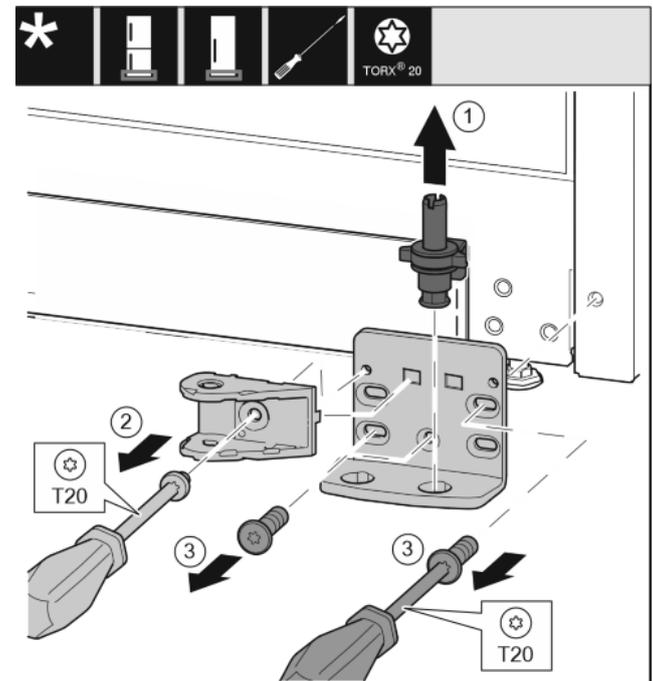

Fig. 27
- ▶ Lift the bearing pin completely upward and pull it out. Fig. 27 (1)
- ▶ Take out the screw with a T20 screwdriver and take off the soft stop connection. Fig. 27 (2)
- ▶ Take out the screws with a T20 screwdriver and take off the bearing bracket. *Fig. 27 (3)*